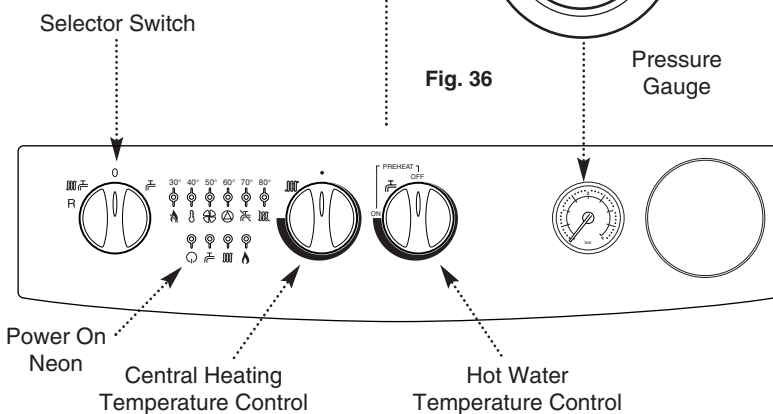

Fig. 37
2. Set the hot water and central heating temperature controls to maximum and the selector switch to the OFF position (Fig. 37).
6. Turn the selector switch to the Central Heating and Domestic Hot Water position (☀️). The power ON neon (⊕) will illuminate (Fig. 37).